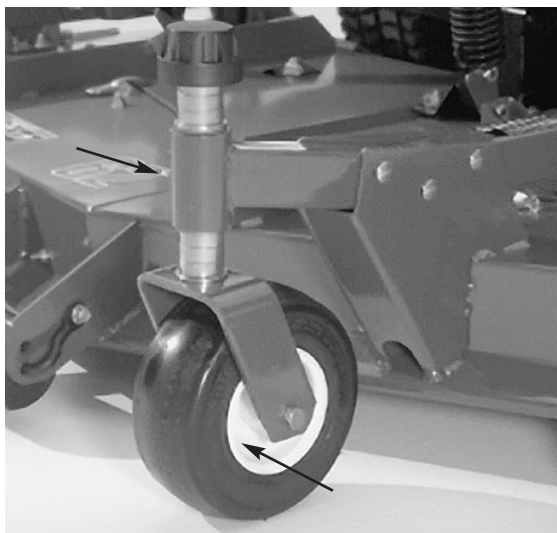
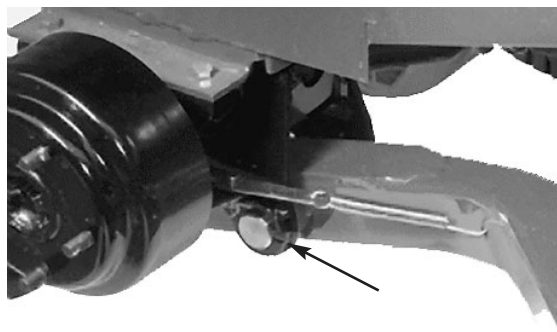
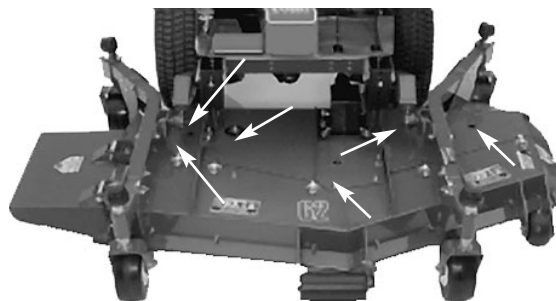

Figure 8
Figure 9
Figure 10
1. The cutting unit has bearings and bushings that must be lubricated, and these lubrication points are: front castor spindle bushings (Fig. 8); front and rear castor wheel bearings (Fig. 8); right and left lift arm pivot pins (Fig. 9); blade spindle bearings (Fig. 10) and right and left ball joints (Fig 10).